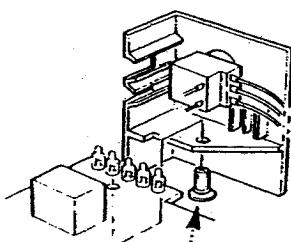

Fig. 102
5. Carefully withdraw the centre pin from the retaining rivet which then allows the retaining rivet to be removed. Remove the thermostat control panel (Fig. 102). (On reassembling ensure the control panel is located over the retaining rivet body before inserting the centre pin.)